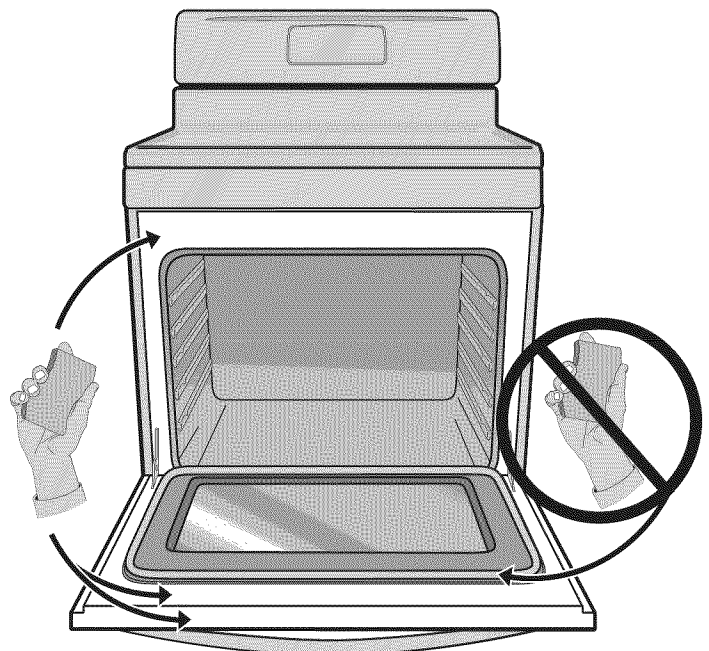

Fig. 1
- Clean any soil from the oven frame, the door liner outside the oven door gasket and the small area at the front center of the oven bottom (See Fig. 1). These areas heat sufficiently to burn soil on. Clean using soap and water prior to starting Select Clean (See Fig. 1).
- **DO NOT** clean the oven door gasket (See Fig. 1). The woven material of the oven door gasket is essential for a good seal. Care should be taken not to rub, damage or remove the gasket. **DO NOT** use any cleaning materials on the oven door gasket. Doing so could cause damage to the door gasket.